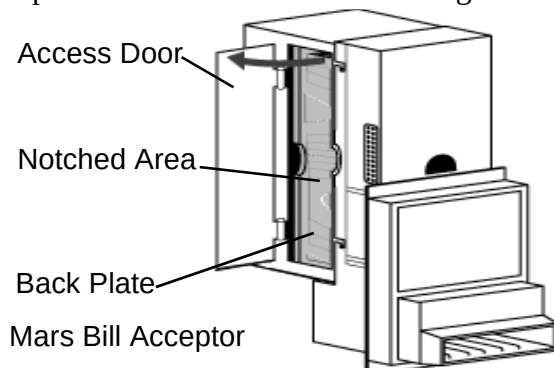

Figure 26. Removing the Cash
5. Open the cash acceptor's access door as shown in Figure 26.